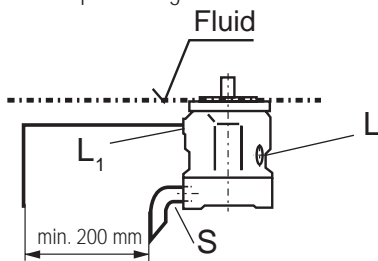

Fig. 1
a) If the minimum fluid level is equal to or above the pump mounting face close port "L" plugged, leave ports "L₁" and "S" open; L₁ piped and recommendation S piped (see Fig. 1).